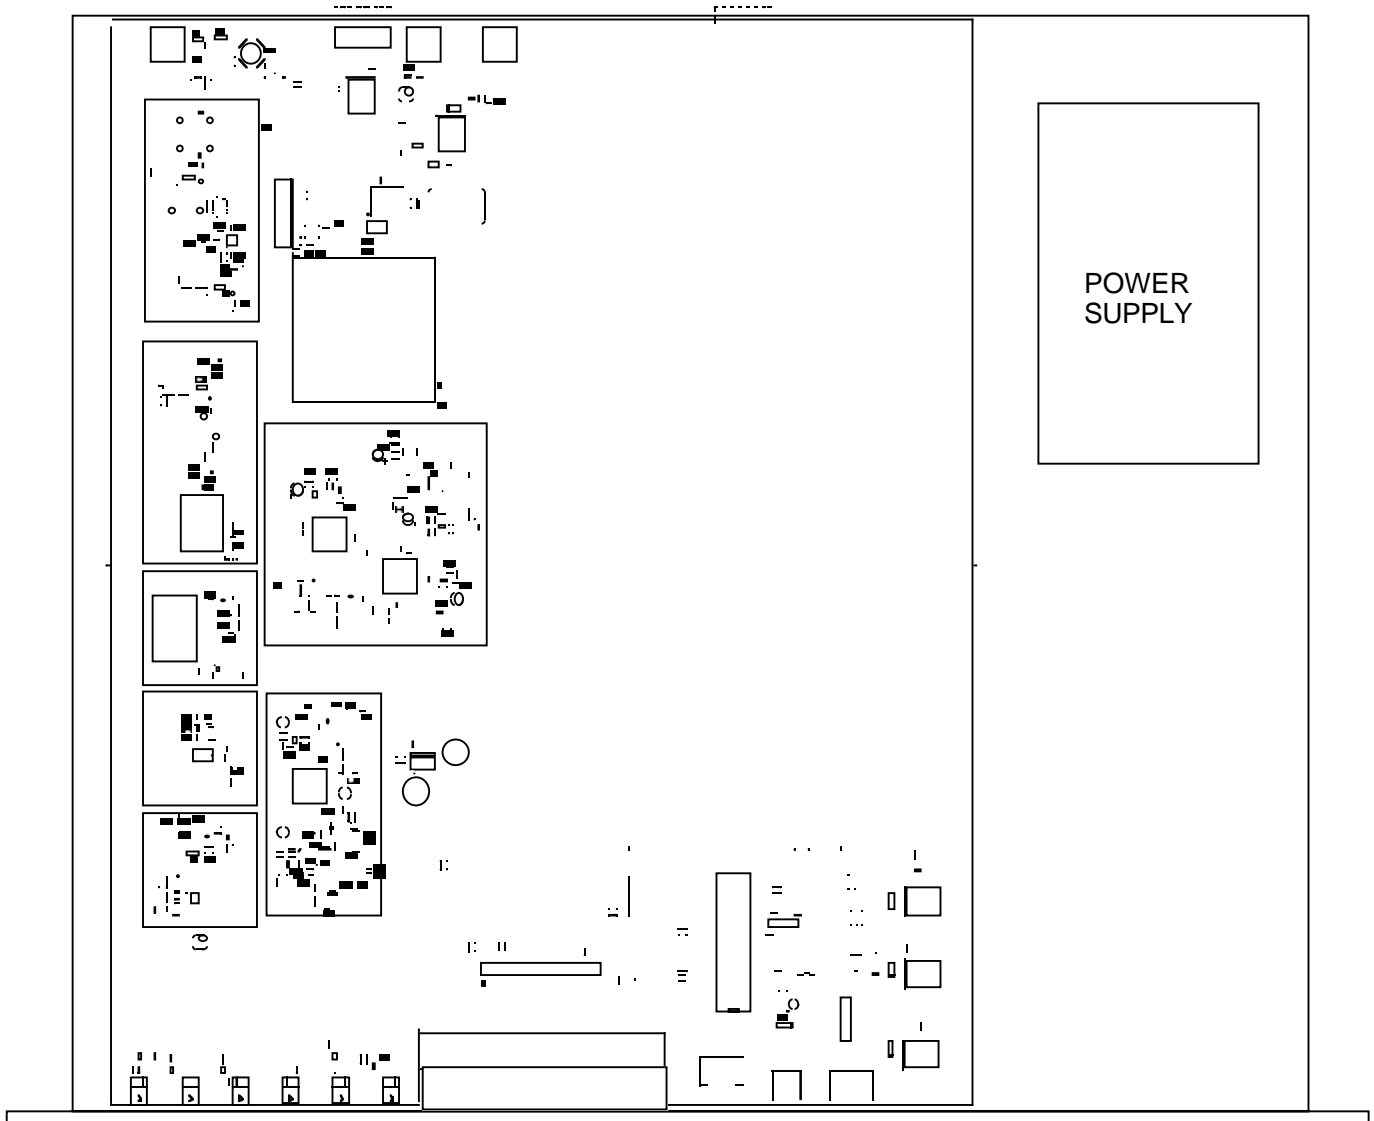

FIGURE 2.1 2015-27 Mechanical Assembly
2.1 Mechanical - The 2015-27 consists of one RF/Controller PCB housed in a 1 RU (1 3/4 inch high) by 16 inch deep chassis. A switching, ± 12 , +24, +5 VDC power supply provides power for the assemblies. The 2015-27 can be secured to a rack using the 4 holes on the front panel. Figure 2.1 shows how the 2015-27 is assembled.